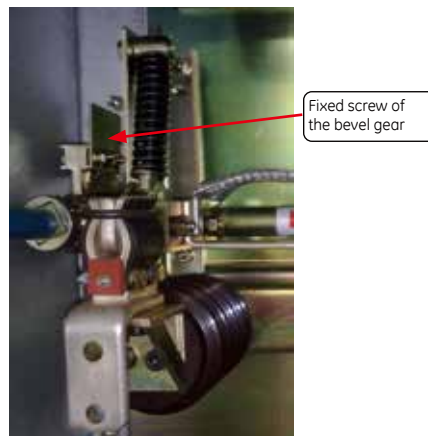

Figure 7.6: Fixing screw of bevel gear
- Unscrew both of the bolts on the bevel gear (See figure 7.6).